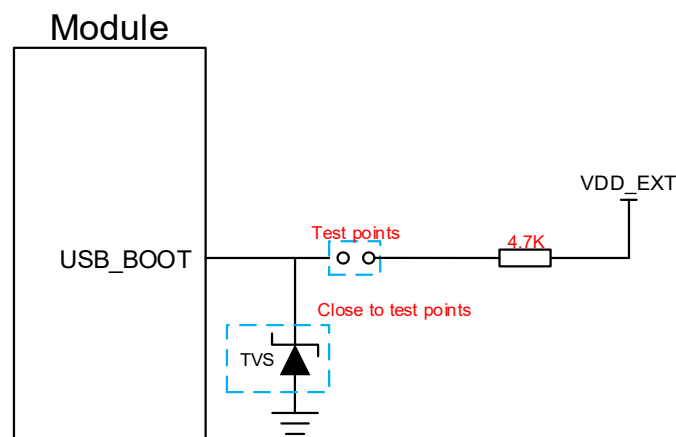

Figure 32: Reference Circuit of USB_BOOT Interface
3. If you need to manually force the module to enter forced download mode, directly connect the test points shown in **Figure 32**.